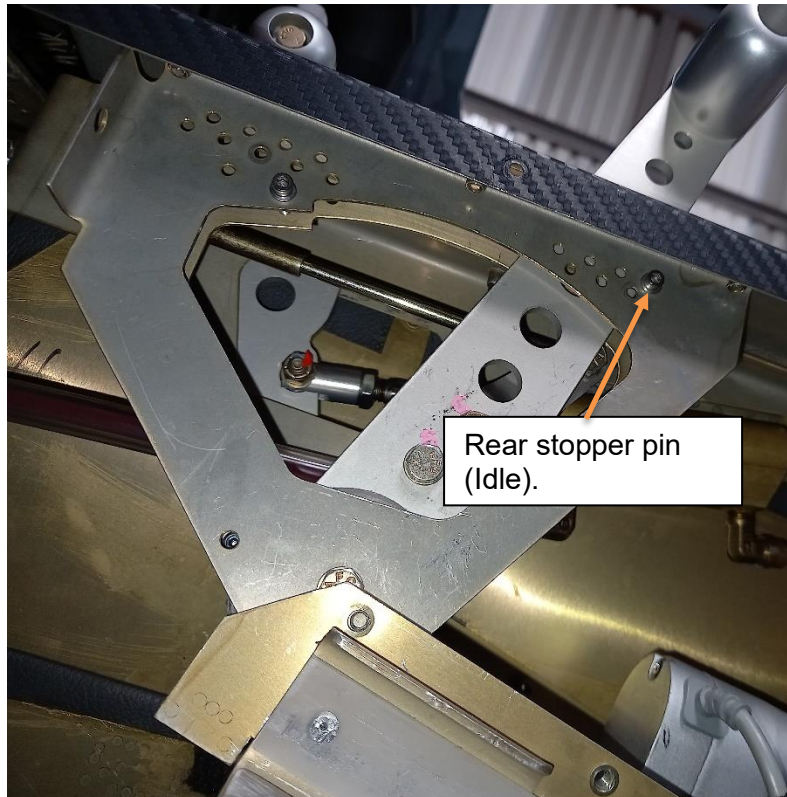

Figure 31
Step 1: Install rear stopper pins to set the idle position of the throttle lever. The idle position stopper pin should be installed so that the throttle lever can be pulled as far back as possible without contacting the throttle quadrant upper plate. Figure 31 shows an example of the idle positions determined for an aircraft. Note: The idle position of the stopper pin may differ slightly from aircraft to aircraft.